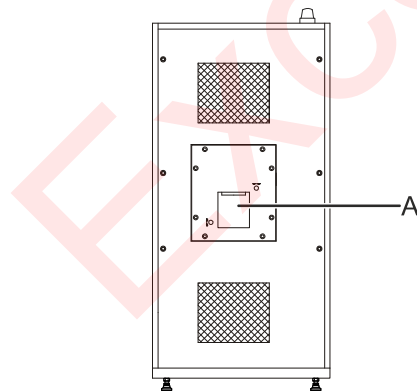

Figure 3: Beam shutter
- All versions except COMPex F2: Manually operated beam shutter (see Figure 3, A) enables the beam exit from the laser housing to be closed.